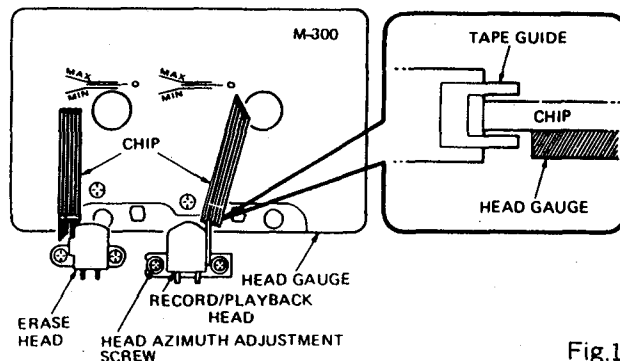

Fig.1
- b) Set the unit in the playback mode and place the adjustment chip on the head gauge as shown in the Fig. 1.